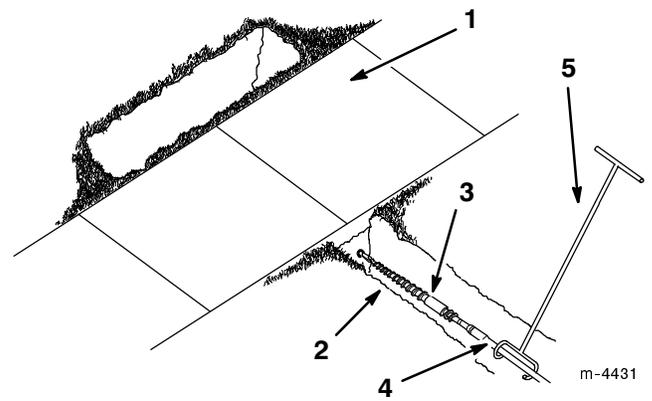

Figure 4
4. Connect the rod guide tool to the rod just behind the boring bit (Fig. 4).
5. With the person guiding the boring bit positioned to the right of the trench (Fig. 4), start the engine, move the pump selector valve to slow (turtle), position the throttle to within the middle of the RPM range, and pull the auxiliary hydraulics lever rearward to start the forward rotation of the boring bit.
6. Slowly move the traction unit forward, while the person with the rod guide tool guides the boring bit into the soil (Fig. 4).